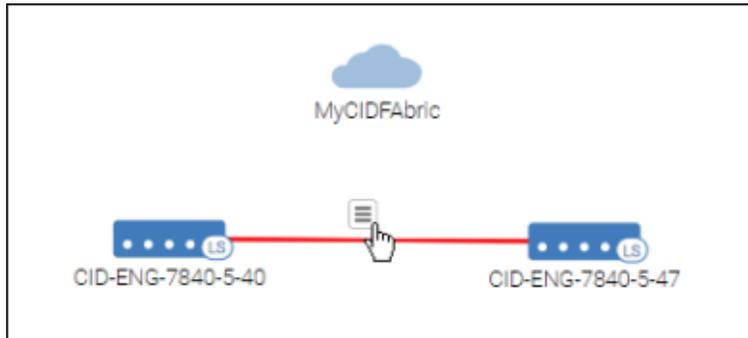

Figure 5-100 Selecting Show Details to show information about each of the ports in the link
- Hover your cursor over the link, click the hamburger icon, and then select **Show Details** to show information about each of the ports in the link (Figure 5-100).